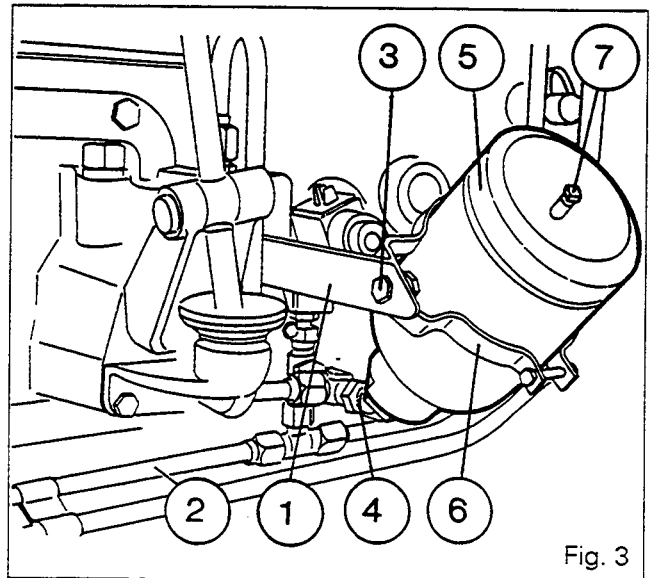

Fig. 3
The movement of the two reduction devices into the Tortoise range drives the rear axle connecting shaft at a speed of 1 revolution per 7.8 revolutions of the box input shaft. When lever A is moved back to the Hare position, the transmission of movement is direct (ratio of 1:1). The tractors having the «super creeper speeds» version are fitted with an accumulator (Fig. 3) connected to the pipe (2) coming from the 17 bar valve. The purpose of this is to reduce the pressure drop when the super creeper range is engaged. This device is held by a bracket fixed to the selection cover.
**For correct operation, maintain nitrogen inflation pressure of 8 bar, using the valve (7) (Fig. 3).**